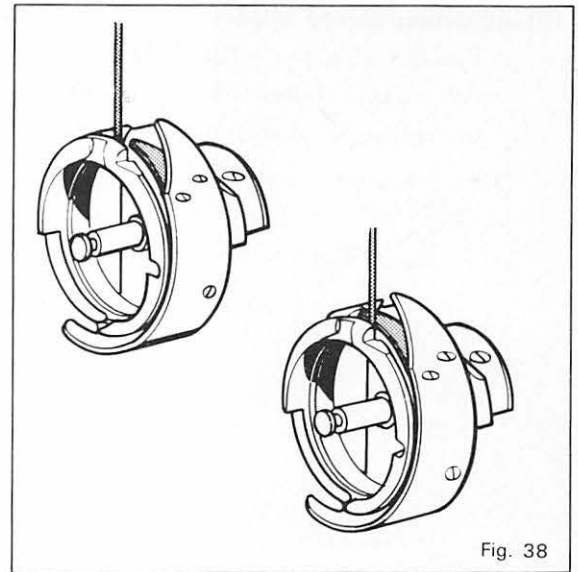

Fig. 38
1. In case of setting prior to correct timing, the knife trims threads in advance. Setting excessively prior to correct timing, the angle between pin 14 of cam and projected portion 15 of clutch is so small, in this result, prior to the pin's climbing up, projected portion of clutch passes pin, clutch will function after one rotation of the lower shaft and needle will hit the knife. So that, please be careful on this adjustment. (Figs. 38 & 39)